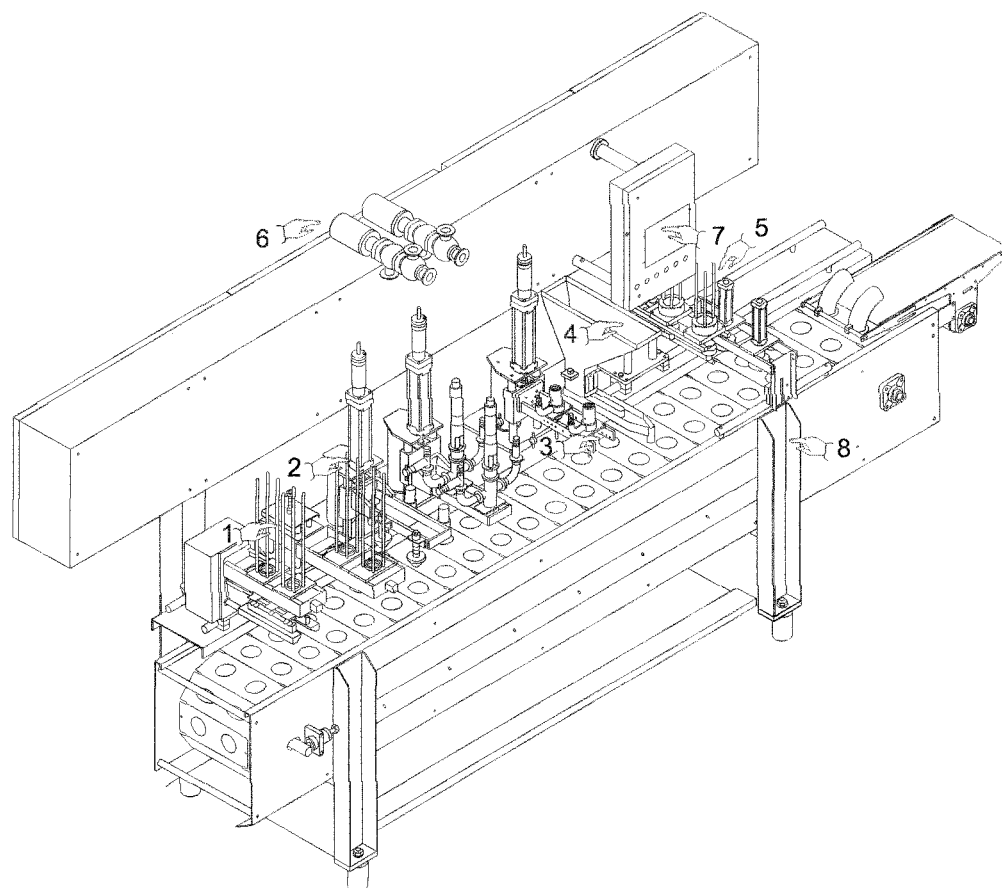

Fig. 6.1
- g. Make sure that the emergency stop buttons (*Part. 7/8 Fig. 6.1*) are disengaged.
- h. Connect the bypass valves to the freezers (*Part. 6 Fig. 6.1*).
- i. Make sure that the compartments of the chocolate container (*Part. 3 Fig. 6.1*) have been correctly filled and that the chocolate is at the right temperature (between approximately 34°C and 37°C).
- l. Make sure that the containers have been correctly positioned in the feed magazines (*Part. 1/2, Fig. 6.1*).
- m. Make sure that the granule hopper has been filled correctly (*Part. 4, Fig. 6.1*).
- n. Make sure that the lids have been correctly positioned in the lid feed magazines (*Part. 5, Fig. 6.1*).